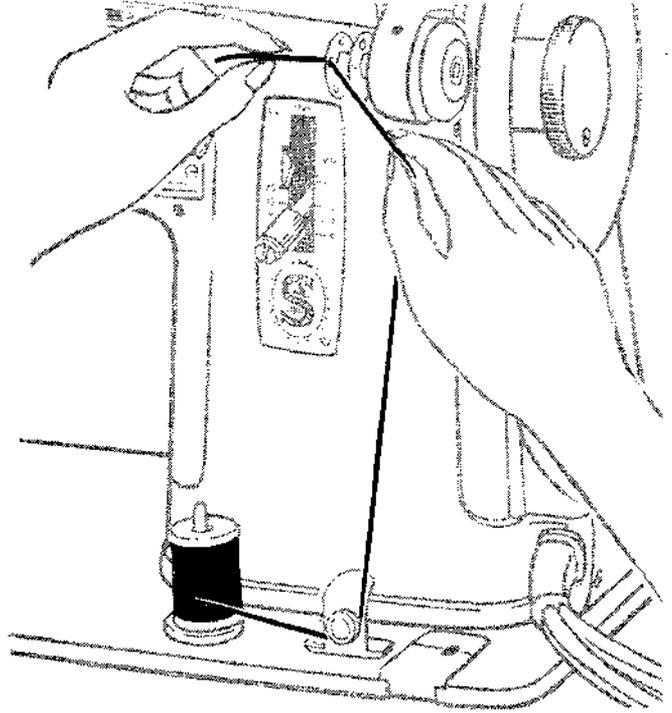

FIG. 11.
- Thread between tension discs and through bobbin as shown in Fig. 11.